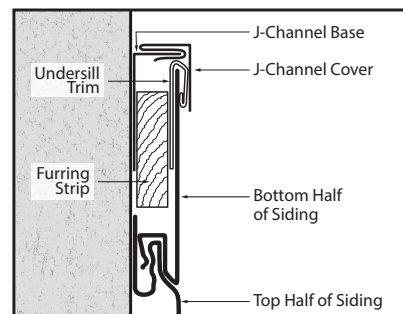

Figure 5.3.1
- If a partial piece of Perspectives is needed to finish the wall, install a ½"x1" Furring Strip and Undersill Trim into the Corner Base pocket or on top of the 2-Piece J-Channel Base. (Figure 5.3.1)
- Install Perspectives planks from left-to-right or right-to-left. If a partial piece of Perspectives is needed to finish the wall, install a ½"x1" Furring Strip and Undersill Trim into the Corner Base pocket or left/right-hand 2-Piece J-Channel pocket. (Figure 5.3.1)
2.4 If the final Perspectives plank is a partial, install a ½"x1" Furring Strip and Understill Trim into the J-Channel (See Figure 5.3.1 on page 10). Apply a small amount of caulking on the Furring Strip face, and install the Perspectives panel between the Furring Strip and J-Channel to help secure it in place.